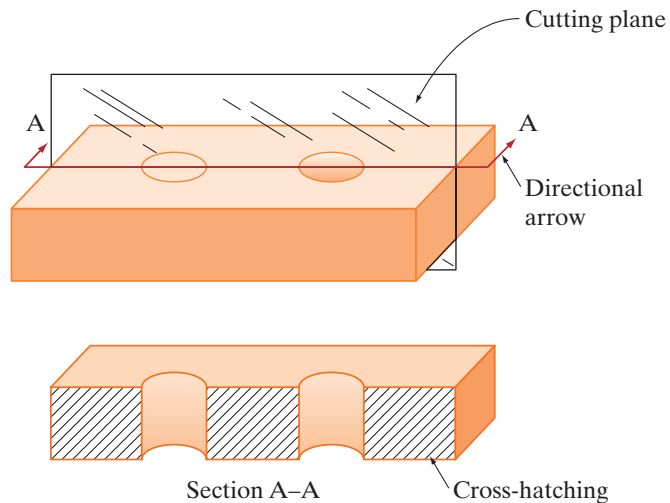

FIGURE 16.14
Let us now look at the procedure that you need to follow to create a sectional view. The first step in creating a sectional view involves defining the cutting plane and the direction of the sight. The direction of the sight is marked using directional arrows, as shown in Figure 16.14. Moreover, identifying letters
are used with the directional arrows to name the section. The next step involves identifying and showing on the sectional view which portion of the object is made of solid material and which portion has the voids. The solid section of the view is then marked by parallel inclined lines. This method of marking the solid portion of the view is called *cross-hatching*. An example of a cutting plane, its directional arrow, its identifying letter, and cross-hatching is shown in Figure 16.14.
- Full-section views are created when the cutting plane passes through the object completely, as shown in Figure 16.14.